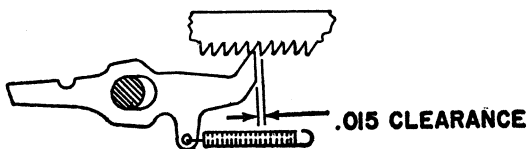

Figure 7. Horizontal Tab Rack Adjustment
5. Slowly turn the power roll backward while observing the escapement pawl from the bottom. The pawl should enter the rack with a clearance of .015" (Figure 7).